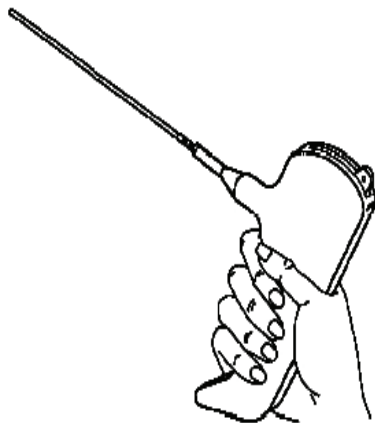

Figure 12. Inserting Contact into Insertion Tool
- d. Place wire and contact assembly into insertion tool (Figure 12). Ensure tool tip is over conductor barrel and butted against contact shoulder.